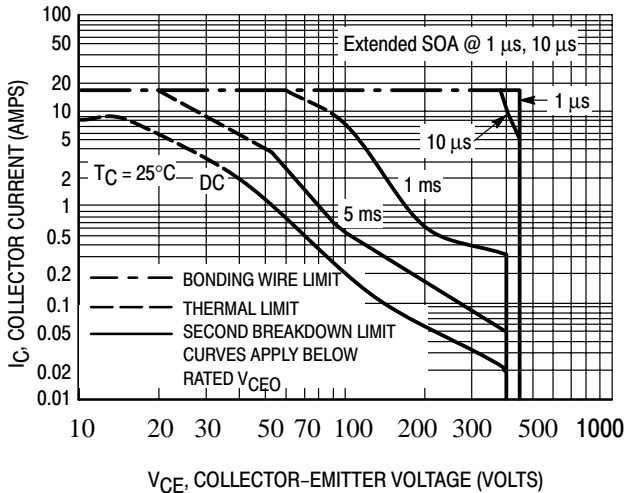
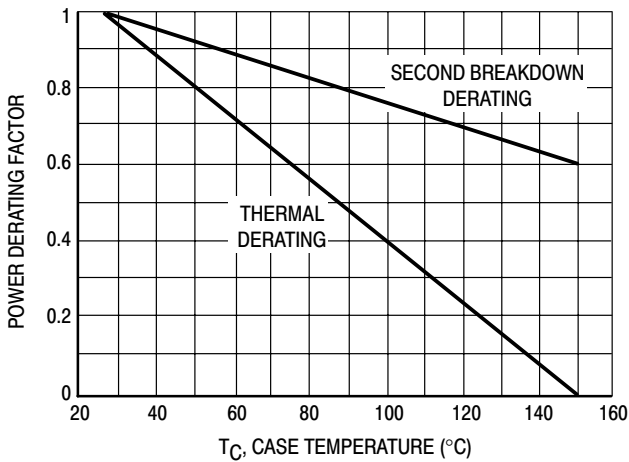

Figure 6. Maximum Forward Bias Safe Operating Area
Figure 8. Forward Bias Power Derating
The data of Figure 6 is based on $T_C = 25^\circ\text{C}$; $T_{J(pk)}$ is variable depending on power level. Second breakdown pulse limits are valid for duty cycles to 10% but must be derated when $T_C \geq 25^\circ\text{C}$. Second breakdown limitations do not derate the same as thermal limitations. Allowable current at the voltages shown on Figure 6 may be found at any case temperature by using the appropriate curve on Figure 8.
The sustaining or active region voltage requirements in switching applications occur during turn-on and turn-off. If the load contains a significant capacitive component, high current and voltage can exist simultaneously during turn-on and the pulsed forward bias SOA curves (Figure 6) are the proper design limits.
4. The turn-on time does not exceed 10 μ s (see standard pulsed forward SOA curves in Figure 6).